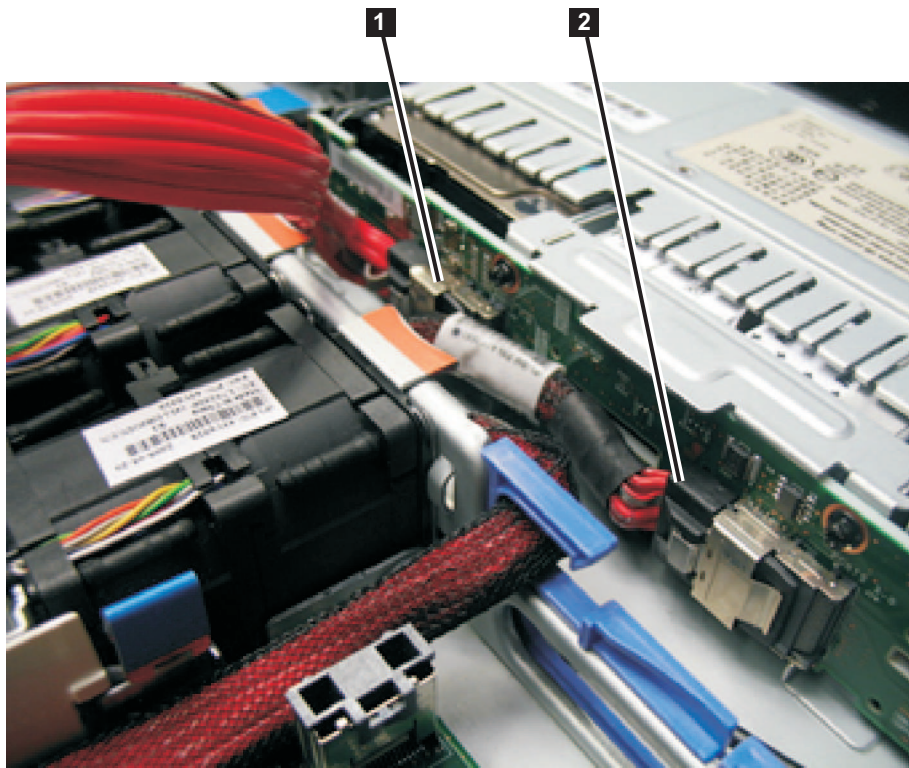

Figure 145. Boot-disk SAS cable and the high-speed SAS cable connected to the disk backplane in the SAN Volume Controller 2145-CG8 or 2145-CF8
The other end of this cable attaches to the disk-controller and USB riser card assembly, as shown in Figure 145 on page 175.
- The boot-drive cable and the high-speed SAS-adapter cable are shown in Figure 145 on page 175.